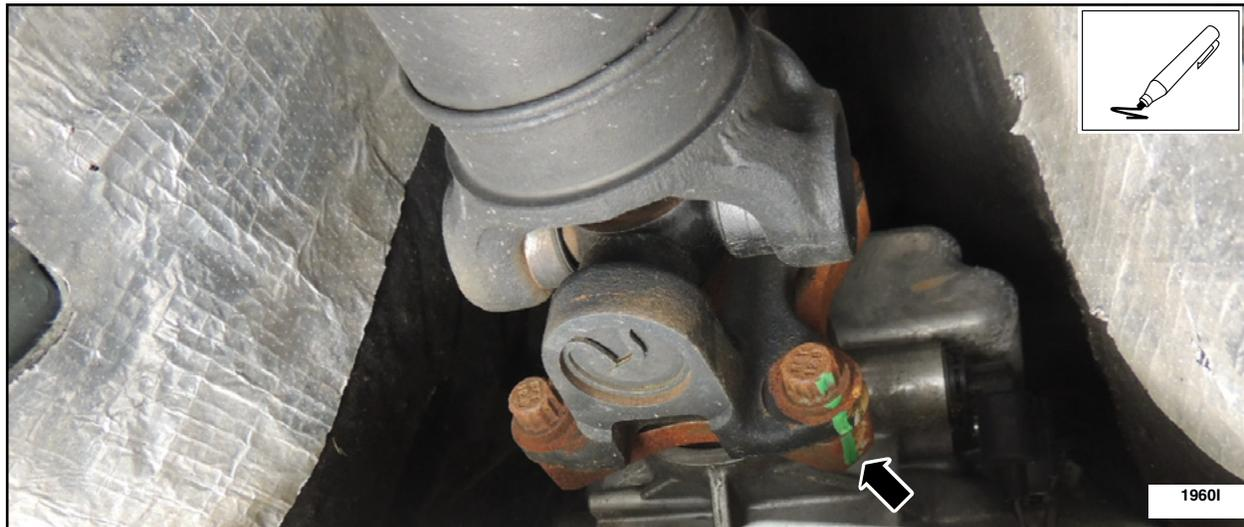

FIGURE 8
- Mark the driveshaft and transmission flange using a paint stick or suitable tool. See Figure 8.